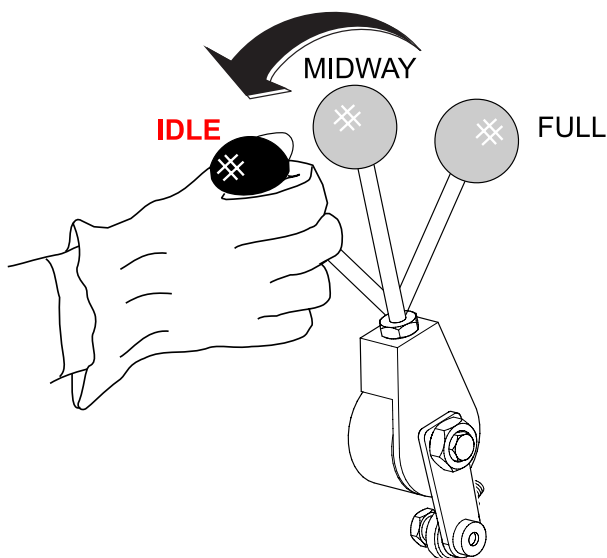

Figure 17. Engine Throttle Lever (Idle Speed)
1. Move the **engine throttle lever** to the **IDLE** position (Figure 17) and run the engine for three minutes with no load.